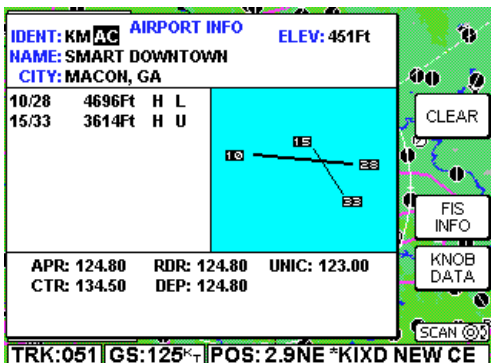

Figure 8
3. Press the **KNOB SCAN** Soft Key. Note that the Control Knob label has changed to **SCAN** and the cursor is on the last two character fields. See Figure 8.
4. Turning the inner knob will now sequence through all airport identifiers in the database beginning with **KM**, which were the first two characters selected in Figure 8.